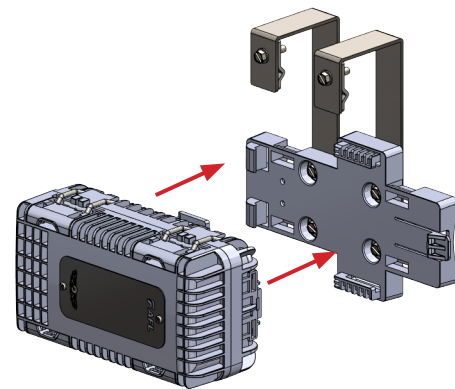

Figure 45
2. Slide the splice terminal on the sliding guides until you hear a “clicking” sound. This sound means the enclosure is locked to the bracket. (Figures 45 and 46)